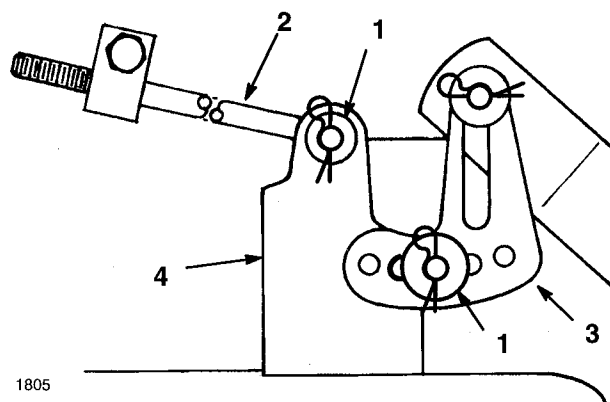

Figure 41
9. Remove the hair pin cotter and washer from the end of the long rod (Fig. 41). Slide the rod out of the mower mount.
10. Remove the hair pin cotter and washer at the mower leveling bracket (Fig. 41). Slide the bracket off the mounting pin. Re-install the washer and hairpin cotter for storage.